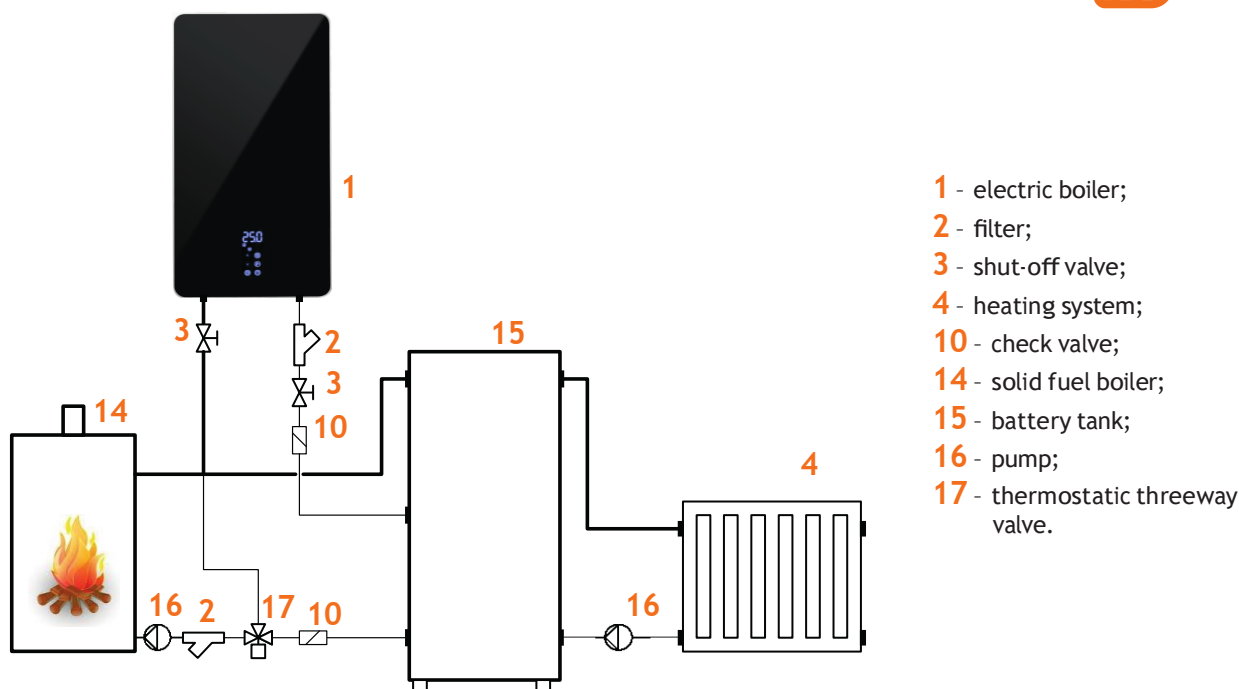

Figure 26 - Wiring diagram of electric and solid fuel boilers with a battery tank.
- by pressing the button  for one second (Figure 26).